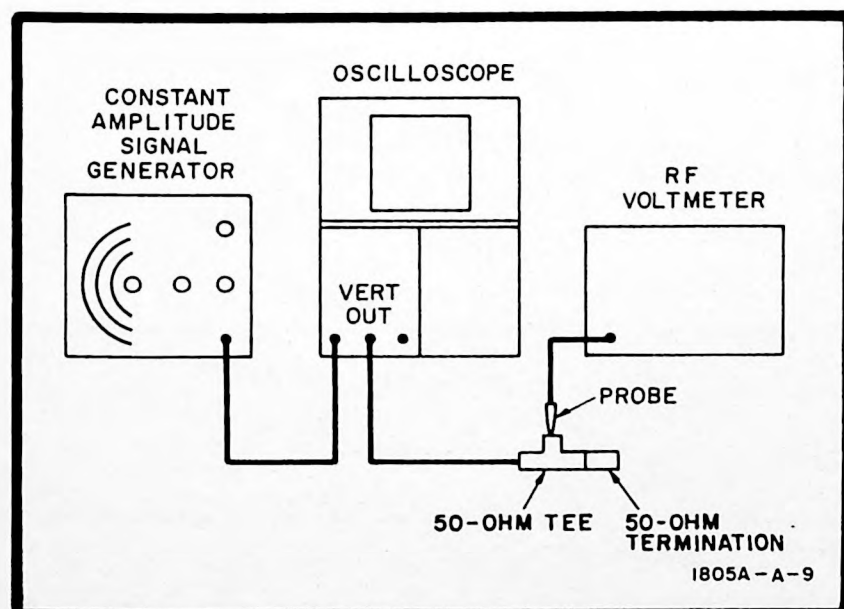

Figure 5-8. Vertical Output Bandwidth Test Setup
a. Connect equipment as in figure 5-8.